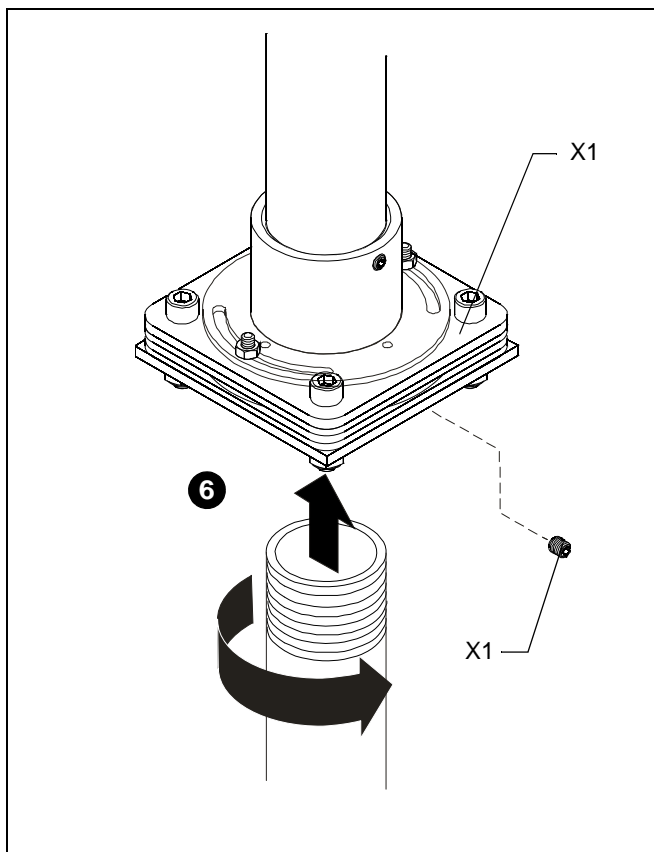

Figure 4
7. Thread one 1 1/2" NPT pipe into lower Swivel Adapter (A). (See Figure 4)
8. Secure lower 1 1/2" NPT pipe to swivel adapter (A) using one set screw (G). (See Figure 4)